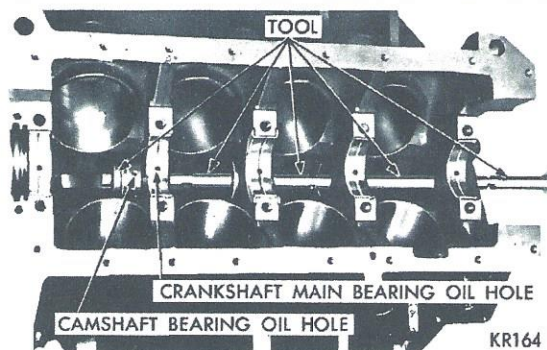

Fig. 30—Removing Camshaft Bearing
(1) With engine completely disassembled, drive out camshaft rear bearing welch plug.
(2) Install proper size adapters and horse shoe washers (part of Tool C-3132A) at the back of each bearing to be removed and drive out bearings (Fig. 30).
The oil holes in camshaft bearings and the cylinder block must be in exact register to insure proper lubrication (Fig. 30).